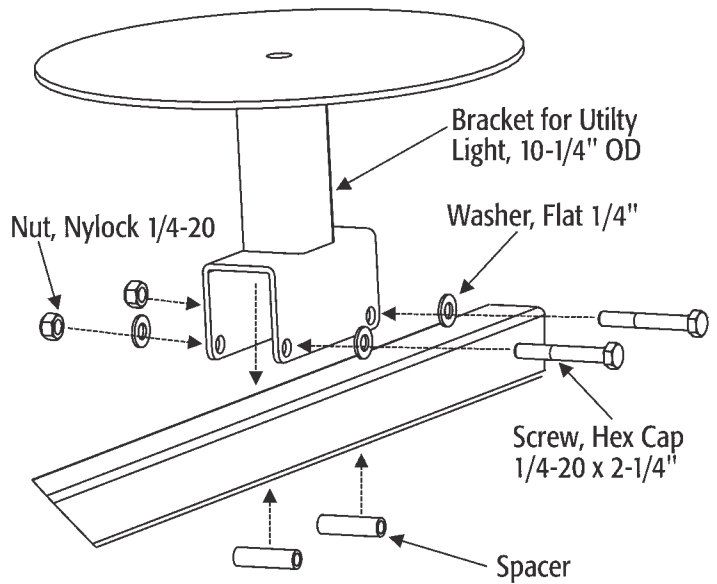

Fig. 3
2. Install all hardware *as shown in Fig.3*. Make sure to place spacers into opening of U- shaped base to prevent collapsing of this part.